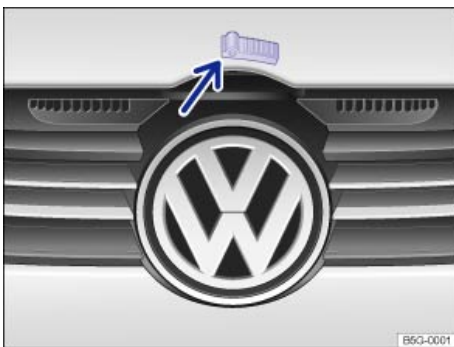

Fig. 155 Above the radiator grille: Outside engine hood release.
- Push the outside hood release lever ⇒ fig. 155 (arrow) and lift the hood all the way up. A gas-filled strut will hold the hood up.